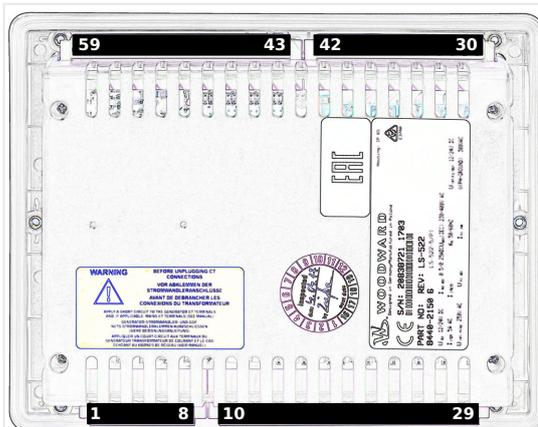

Fig. 18: Plastic housing (rear view)
- Plastic housing - shown in ↳ Fig. 18